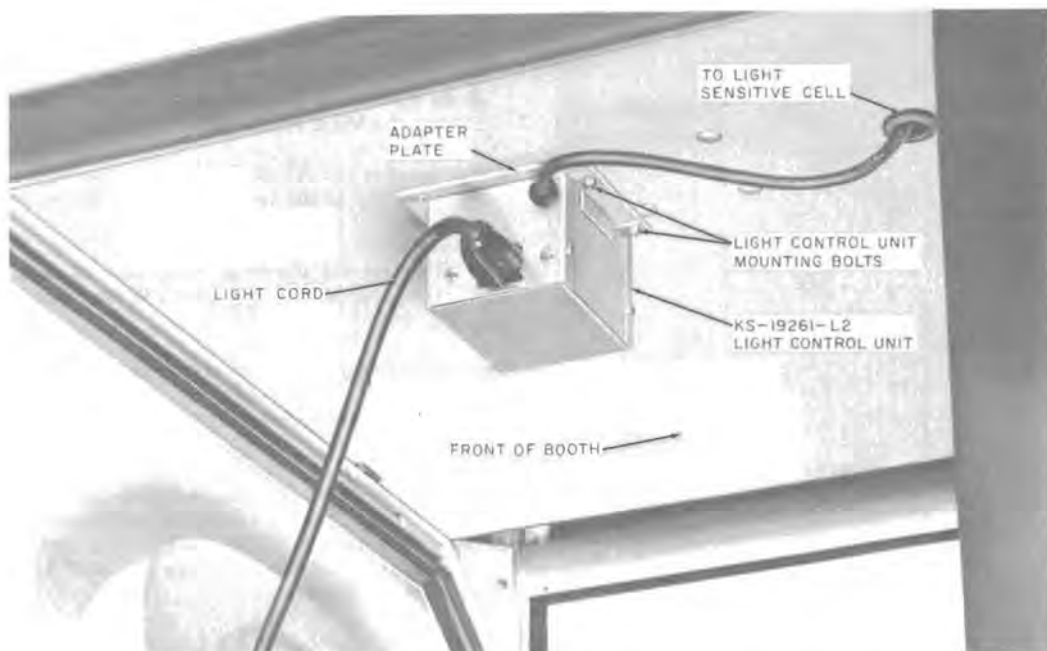

Fig. 14—Position of List 2 Light Control Unit on Ceiling of KS-14611 Booth
- (h) Attach light cell adapter plate to inside of ceiling so that the pair of light control unit mounting bolts are toward the front of booth (Fig. 14).
- (o) Plug light cord into control unit (Fig. 14).